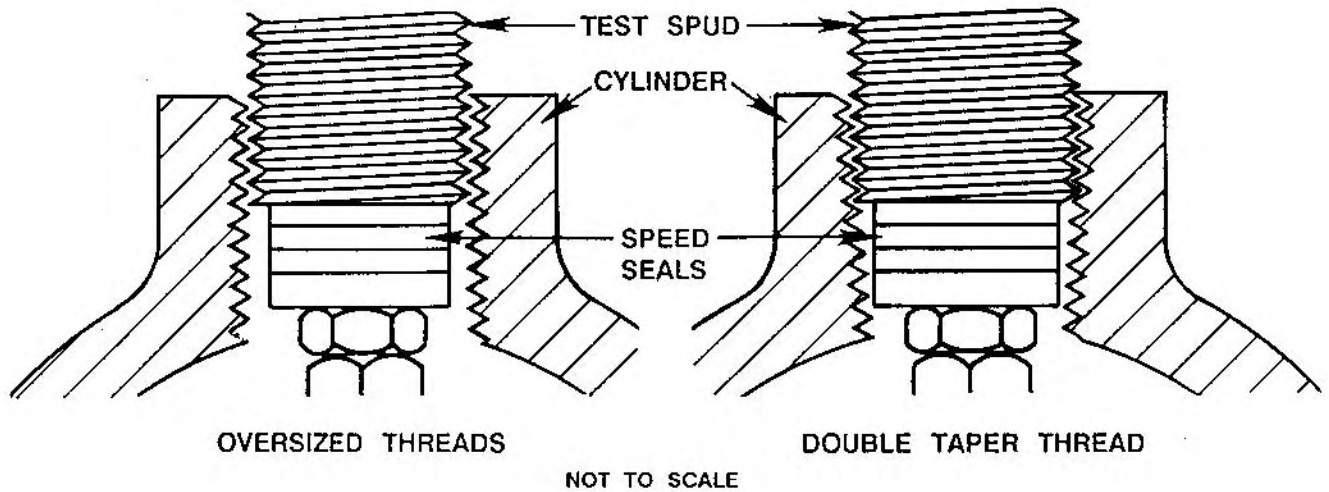

FIGURE 4) CYLINDER NECK THREAD DETAIL
4. Make certain that you are using a test spud that is appropriate for the neck threads of the cylinder that is being tested (see Figure 4 below). Certain types of cylinders (such as cylinders with oversize neck threads or double tapered neck threads) will appear firmly attached when screwed on to an incorrect test spud, without properly engaging the threads of the test spud. If you have any questions concerning the appropriate test spud to be used with a particular type of cylinder, contact Galiso.
16. Make certain that you are using a test spud that is appropriate for the neck threads of the cylinder that is being tested (see Part 4, Figure 4). Certain types of cylinders (such as Linde cylinders with oversize neck threads or Airco cylinders with double tapered neck threads) will appear firmly attached when screwed on to an incorrect test spud, without properly engaging the threads of the test spud. If you have any questions concerning the appropriate test spud to be used with a particular type of cylinder, contact Galiso.
- A. The Hydraclose Test Head is screwed into the cylinder neck, engaging with three (3) to five (5) neck threads (see number 15 above).